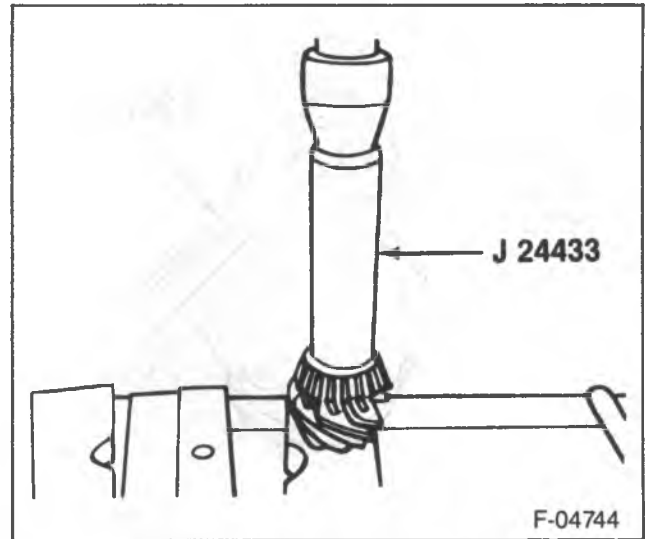

Figure 10—Installing the Inner Pinion Bearing
1. Lubricate rear bearing (13) onto the pinion.
- Press the bearing onto the pinion using J 24433 (figure 10).